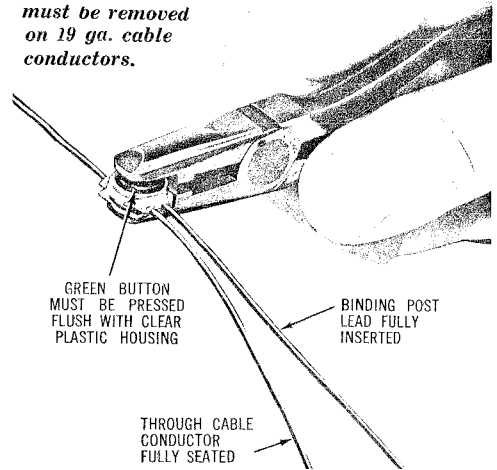

Fig. 5 — Pressing UG SCOTCHLOK Connector with Z Pressing Pliers
1.02 This section is revised to include the Term Assignable Count (AC), which supersedes the Term Preferred Count. It also includes a notation (Fig. 5) indicating that the insulation on 19 ga. cable conductors must be removed before using ®U.G. Scotchlok Bridging Connectors.
(3) Bridge the tip and ring terminal block leads to the tip and ring conductors of the assigned cable pair using UG SCOTCHLOK connectors and Z Pressing Pliers (Fig. 5). When pressing the connector make certain that the green button is pressed flush with the surface of the clear plastic connector housing.